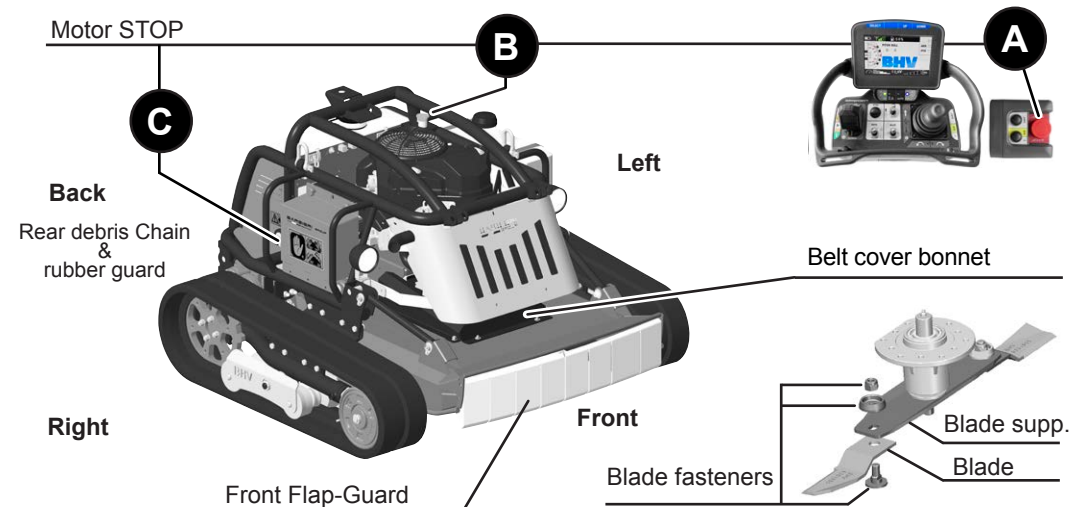

Fig. 5
The terms "FRONT" - "REAR" - "RIGHT" - "LEFT" used in this handbook and in the spare parts catalogue, are referred to the machine as shown in Fig. 5
- 1 - Engine-Stop devices (A) (B) and (C)(Fig.5)
- 3 - Front and rear shield to stop the objects thrown by the blade (Fig. 5)
- 4 - Blade and blade fasteners (Fig. 5)